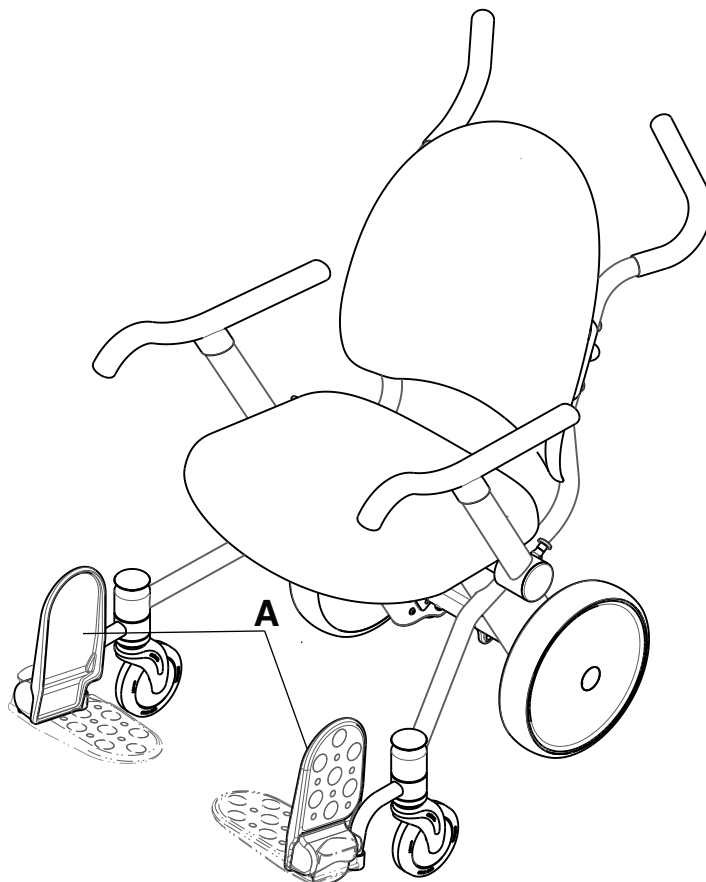

Figure 6 – Flip-up footrests stowed position
2. Make sure that the flip-up footrests raise to the stowed position (A) (Figure 6).